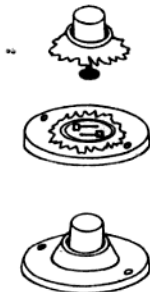

Fig. 2.9 Bell push
**Push Button Switch** It is also known as the bell push and is used for switching on the electric bell, (Fig. 2.9). It is made of plastic or Bakelite.